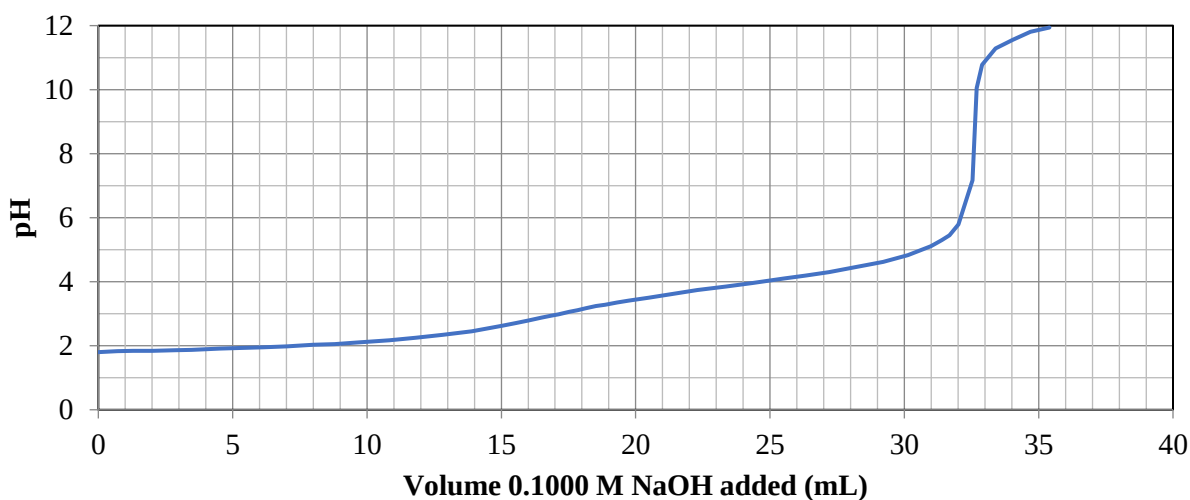
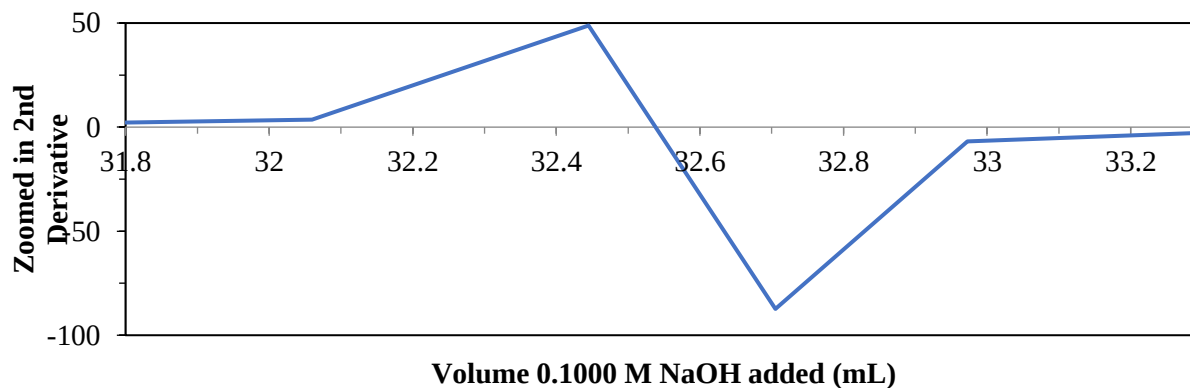

Figure 5. Titration curve of Shay's unknown diprotic acid with 0.1000 M NaOH.
Figure 6. Zoom in of the second derivative of the titration curve of an unknown diprotic acid with 0.1000 M NaOH.
Shay conducted a similar experiment. However, Shay dissolved 0.7500 grams of unknown acid into 250.0 mL of water. A 50.00 mL aliquot of the unknown diprotic acid solution was titrated with 0.1000 M NaOH. The titration curve was plotted in Figure 5 and the second derivative was plotted in Figure 6.
6. Using Figure 6, identify the second endpoint to the nearest hundredth of a milliliter.
8. Use the first endpoint and second endpoint volumes to determine the volumes at pK_{a1} and pK_{a2} and then estimate the pH at those volumes from the titration curve (Figure 5).